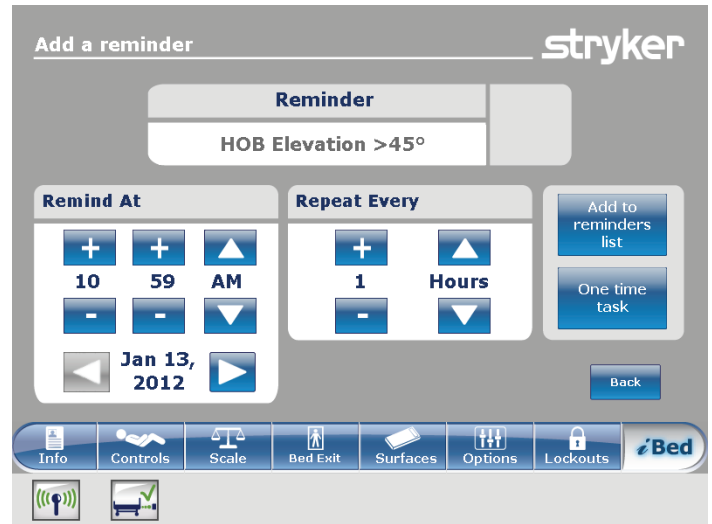

Figure 88 – Setting a repeating reminder
6. Set the desired time interval for the repeated reminder (Figure 88).